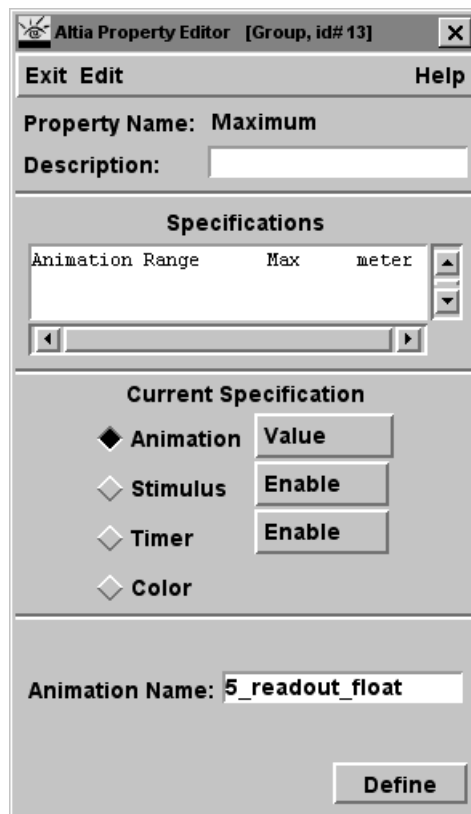

FIGURE 3-13 Set Property to Change Label
30. In the Current Specification section of the Altia Property Editor dialog, change the button to the right of **Animation** from **Range** to **Value**. In the **Animation Name** field at the bottom, type in the animation name for the readout object (the name that you have been remembering since step 20) as shown below in Figure 3-13.